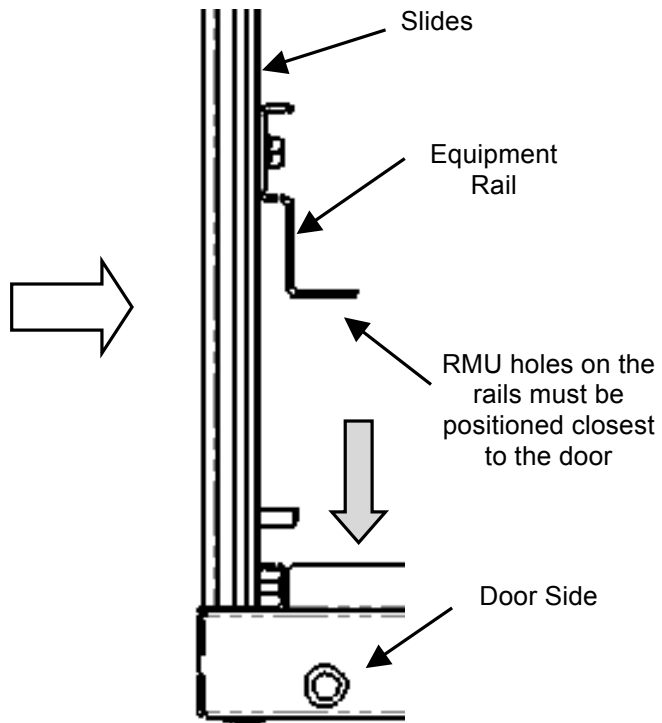

Fig. 3
1. Position Equipment Rail as shown (Fig 3).